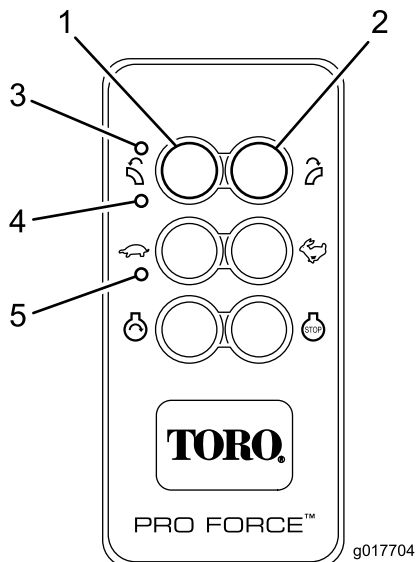

Figure 13
The remote control activates (powers up) when any push button is pressed. Blinking TX and RX LEDs indicate that the remote control is alive and communicating with the base unit. To conserve battery power, the remote control stays active for approximately three (3) seconds before automatically shutting down unless there is button activity within the three second limit. When the unit times out and powers down, all remote control LED activity stops (Figure 13). Pressing any button will reactivate the remote control